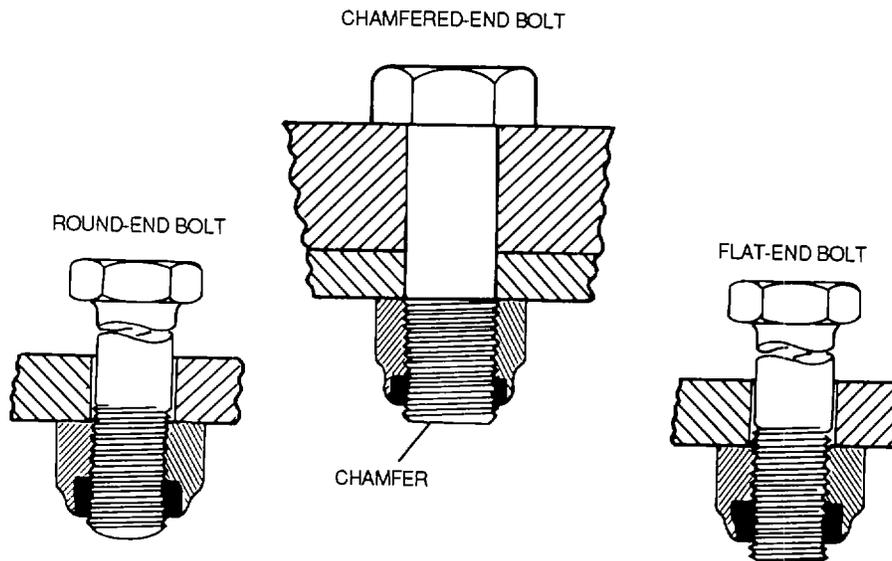

Figure 2-21. Self-Locking Nut Installation Limits
(b) *Limitations.* Self-locking nut installation limits are shown in figure 2-21. The limit criteria as applicable are as follows:
- Round- or chamfered-end bolts or screws, as shown in figure 2-21, must extend at least the full round or chamfered area plus one thread pitch through the nut.
- Flat end bolts or screws, as shown in figure 2-21, shall extend at least two thread pitches through the nut.